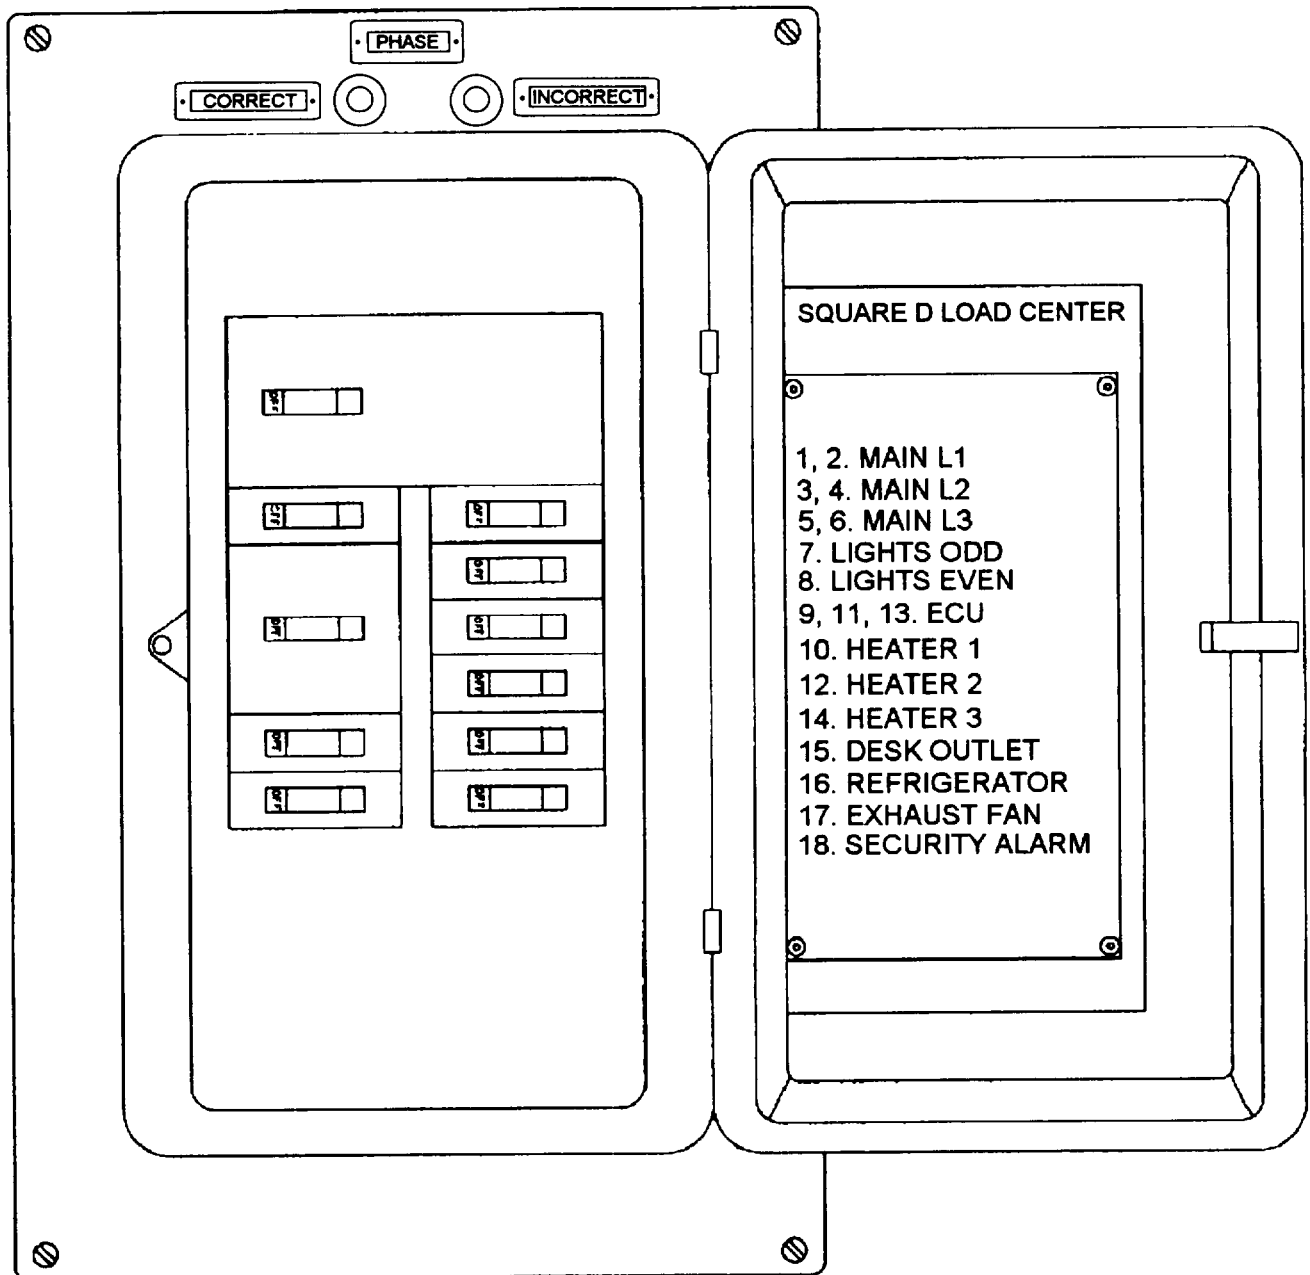

Figure F-3. AN/ASM-190 power distribution panel.
*Power Distribution Panel* (fig. F-3),